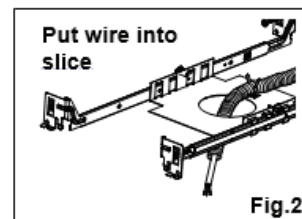

Fig.2
3. Pull out the conduit in enough length then put into the slice (as Fig.2).